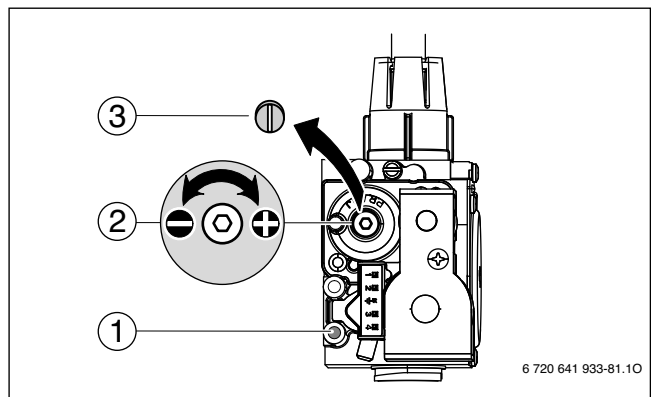

Fig. 80 Set CO2 or O2 level for minimum nominal output
- ▶ Remove the sealed screw (→ Fig. 80, [3]) from gas valve adjustment screw (→ Fig. 80, [2]) and set CO2 or O2 level for minimum nominal output.
- ▶ Reinstall the screw (→ Fig. 80, [3]) to cover the gas valve adjustment screw.
- Loosen the screw in the test port for gas inlet pressure (→ Fig. 80, [1]) and connect a pressure gauge (→ Fig. 82).